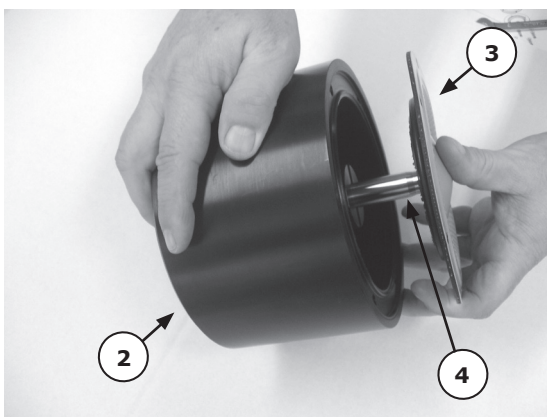

Figure 5
Screw the diaphragm (3) on the shaft (4) and push the shaft gently in the air section (2). (see figure 5)